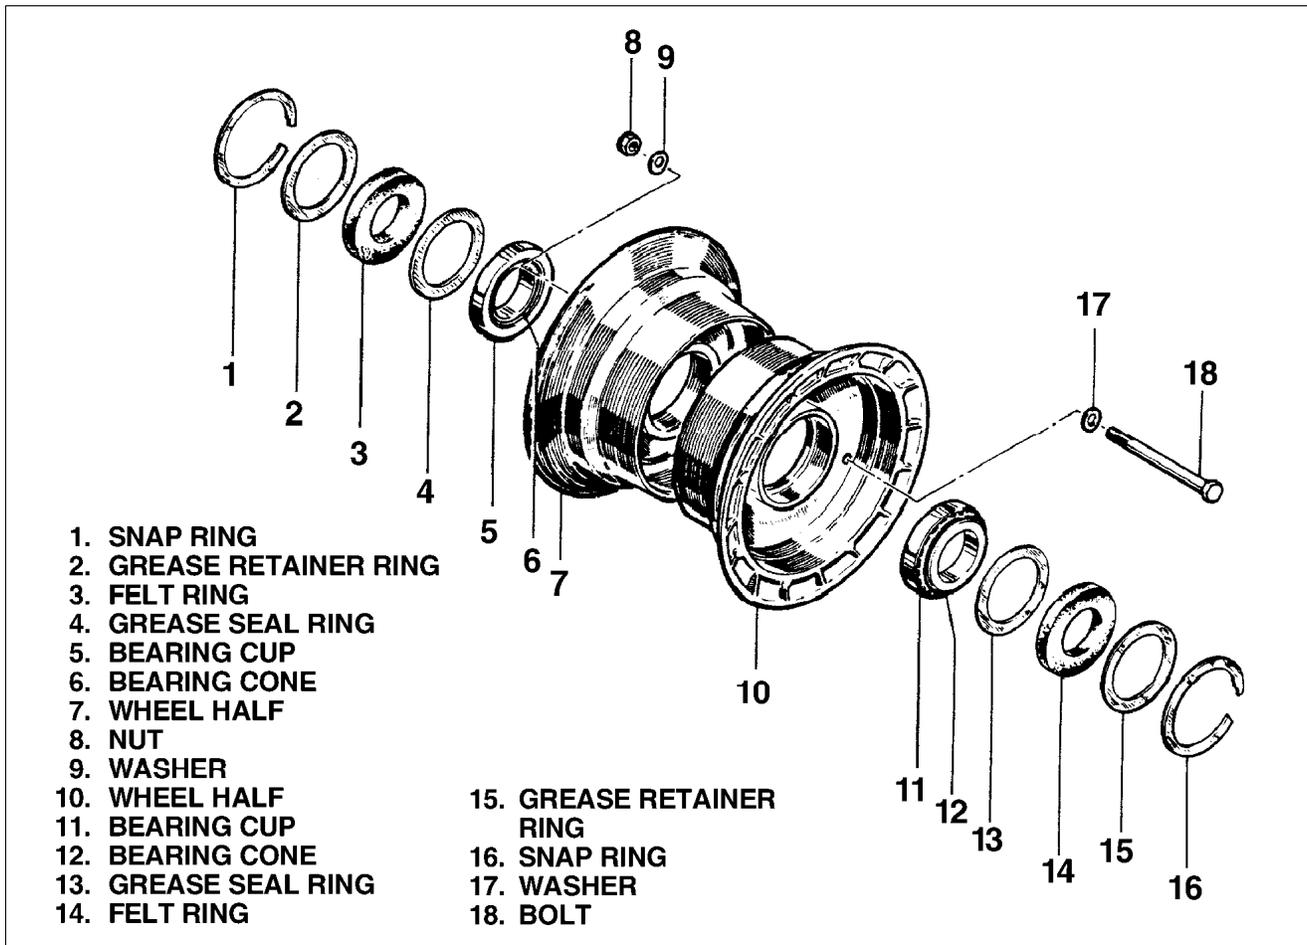

Figure 32-17. Nose Wheel Assembly
**1. Removal and Disassembly of Nose Wheel (Refer to Figure 32-17)**
3. Assembly and Installation Nose Wheel. (Refer to Figure 32-17.)